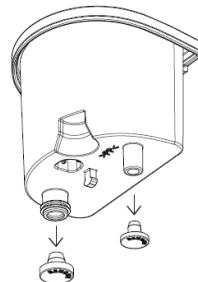

Figure 1
3. Remove the sealing cover from the new anti-scale cartridge (Figure 1).